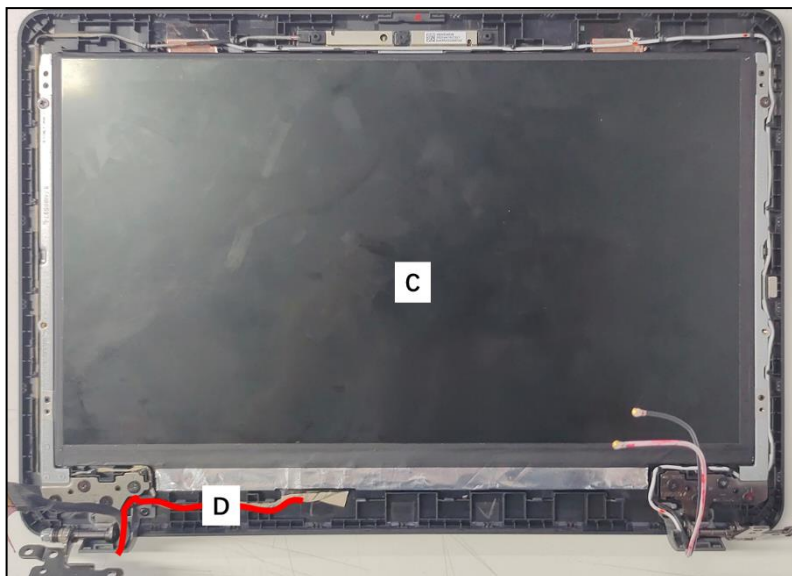

Figure 3-79. Replacing the LCD Panel
4. Insert the EDP cable (C) into the left hinge cap as shown in Figure 3-79. Then align and place the LCD panel (D) on the LCD cover.